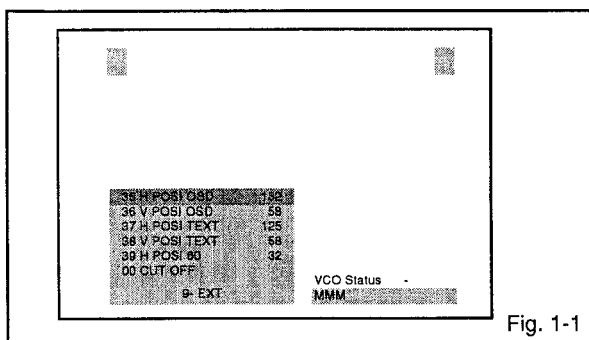

Fig. 1-1
1. In the condition of NO indication on the screen. Press the VOL. DOWN button on the set and the Channel button (9) on the remote control for more than 2 seconds to appear the adjustment mode on the screen as shown in Fig. 1-1.
4. Activate the adjustment mode display of Fig. 1-1 and press the channel button (01) on the remote control to select "RF AGC".
2. Activate the adjustment mode display of Fig. 1-1 and press the channel button (00) on the remote control to select "CUT OFF".
4. Activate the adjustment mode display of Fig. 1-1 and press the channel button (03) on the remote control to select "R DRIVE".